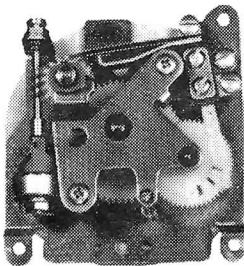

Figure 1. Dial Types 51 Through 154A.
2.01 Rotary dials may be placed into two categories: those with single-contact springs and those with double-contact springs. The Type 24, 24A36, and 51 dials have single-contact springs, while the Type 51A, 52, 53A, 53B, 54A, 54B, and 154A dials (Figure 1) have bifurcated contact springs. The manufacture-discontinued dials are included in this description only to show the fundamental differences between them and the present dials. The associated tables and figures referenced also provide a parts breakdown as well as parts compatibility information where applicable.